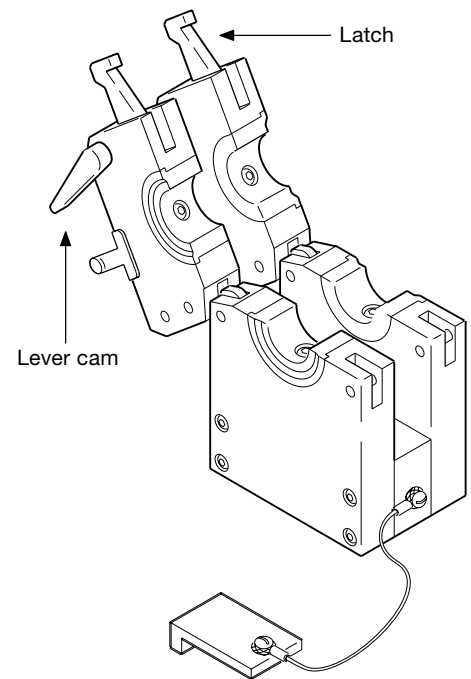

Figure 28 Lever Cam and Latch
6. Check the lever cam and latch for smooth operation. See Figure 28.